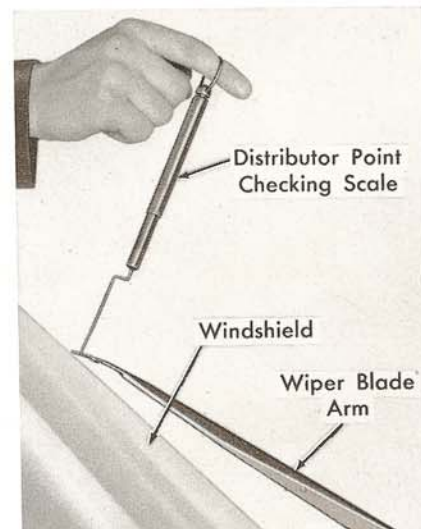

Fig. 2
3. Hook a distributor point checking scale under the tip of the wiper arm as shown in Fig. 2. Pull upward on the checking scale, and note the reading on the scale at the instant the arm leaves the glass. If the reading noted is not within the required specification of 10½ to 12½ oz., the wiper arm should be replaced.